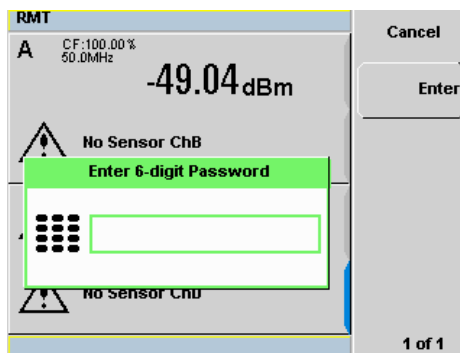
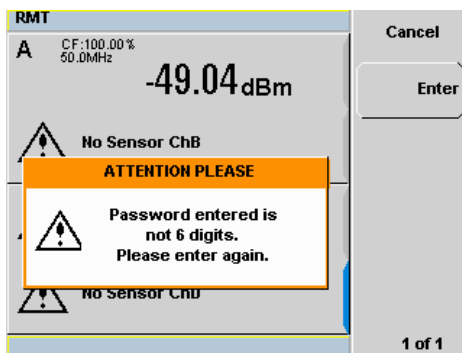

Figure 2-43 Enter 6-digit Password pop-up
Figure 2-45 Warning message
- 3 Press **Secure Blank**. The Enter 6-digit Password pop-up is displayed. You are to enter a 6-digit password upon activating the secure blank feature (see Figure 2-43).
- 5 A warning message pop-up will be displayed if the entered password is not 6-digits (see Figure 2-45). This warning will appear for two seconds before the Enter 6-digit Password pop-up (Figure 2-43) is displayed again.